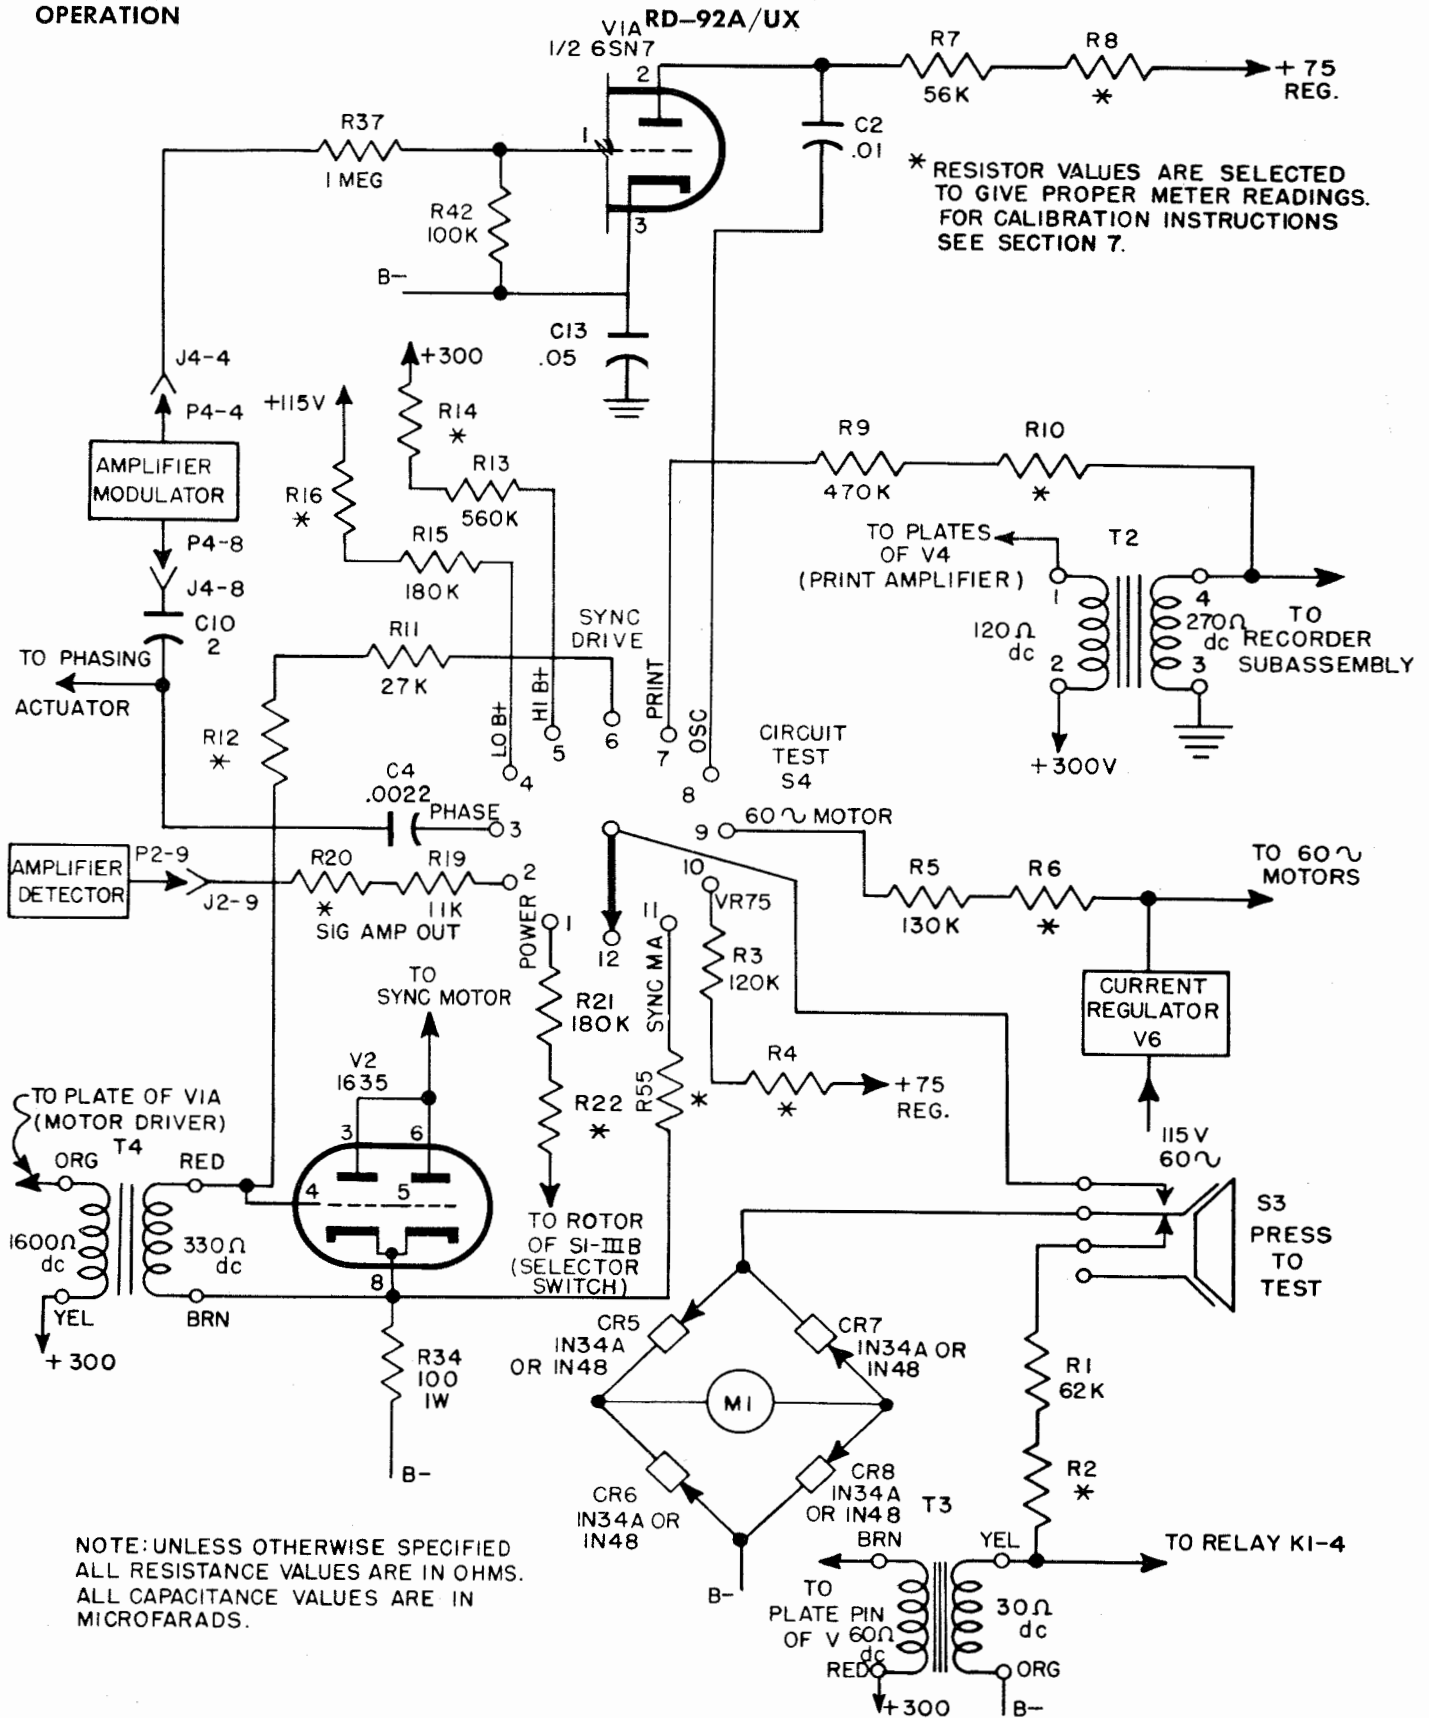

Figure 2-15. Schematic Diagram of Test Circuits
(c) CIRCUIT TEST SWITCH.—(See *simplified schematic, figure 2-15.*) CIRCUIT TEST switch, S4, provides a means for a quick circuit check when trouble is encountered. Basic circuits are checked at each of eleven test positions. The meter at the center of the control panel, Meter M1, serves as indicator. The normal operating condition for all tests, unless otherwise indicated, is to have the synchronous motor running in SYNC position and the DENSITY control switched to TEST SIGNAL position. The test is then made by rotating the switch pointer to the position indicating the circuit to be tested and depressing the
b. CIRCUIT TEST SWITCH.—(See *simplified schematic, figure 2-15*). CIRCUIT TEST switch S4, enables a quick circuit check at eleven test positions with the use of meter, M1, as indicator. To obtain comparable readings, it is necessary to specify normal operating conditions for the test. For the RD-92A/UX, for all test positions except PHASE AMP and PRINT, the normal meter reading is 100 when the synchronous motor is running in SYNC position and the DENSITY control is at the TEST SIGNAL position. Each test position is checked as follows:
(1) POWER.—In this position, the line voltage available at the recorder is measured ahead of the power switch. A reading of 100 on the meter indicates a normal voltage of 117 volts on the power line.
(2) SIG AMP OUT.—To obtain the proper reading in this position, the DENSITY control is adjusted for maximum signal if a facsimile signal is being received or, if no signal is received, the control is rotated to TEST SIGNAL position. The meter reading is an indication of the amount of d-c signal available at the output of the signal amplifier unit for keying the modulator tube V202A. With no input or test signal, the meter reading should be about 45.
(3) PHASE AMP OUT.—For proper reading in this position, the DENSITY control must be adjusted for maximum signal and phasing pulses must be received. When PRESS TO TEST and PHASE switches are both depressed and the phasing thyatron V203 is functioning properly, the meter pointer will pulse upward once each second.
(4) LO B+.—In this position, the B+ voltage for the signal amplifier is measured. If the meter reads 100 in POWER position and does not read 100 in LO B+ position, selenium rectifier CR4 or capacitor C7 or C8 may be defective.
(5) HI B+.—In this position, the B+ voltage applied to the phase, synchronous motor, and print amplifiers is measured. The meter should read about 100 when the synchronous motor is running. If the meter reads 100 in the POWER position and does not register near 100 in HI B+ position, rectifiers CR1, CR2 and CR3 or capacitors C5, C6, or C8 may be defective.
(6) SYNC DRIVE.—This position measures the signal applied to the grids of the motor amplifier tubes V2 and V3. The meter reading may vary widely from 100, depending on the setting of the SYNC MA potentiometer at the back of the recorder. An exceptionally low reading may be caused by a defective tube — V1, V301, or V302.
(7) PRINT.—For this test, DENSITY control is adjusted for maximum signal input and the stylus engaged so that copy is being printed on the recording paper. Under steady state maximum signal, the meter should read about 100. If the reading is exceptionally low, the fault may be a defective tube — V4, V201, or V202.
(8) OSC.—This position measures the voltage output of the 15 kc oscillator. A meter reading considerably less than 100 may be caused by a defective tube — V201 or V1.
(9) SIXTY-CYCLE MOTOR. — This position measures the voltage applied to the start or run motor. This voltage is regulated by voltage regulator tube V6 and should give a reading of nearly 100 in the SYNC or RUN position of the selector switch. If the reading is not near 100, tube V6 may be defective. In STANDBY or START position, the reading should be high since the motors are not drawing current.
(10) VR75.—This position checks the voltage regulator VR75/OA3. If the meter does not read approximately 100, tube V5, or capacitors C7 or C8 may be defective.